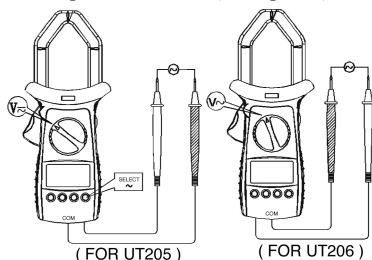

FIG 4
B. AC Voltage Measurement (See figure 4)